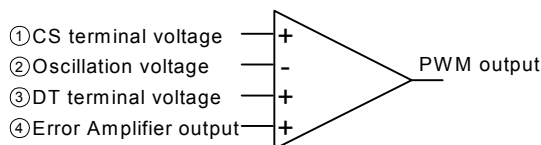
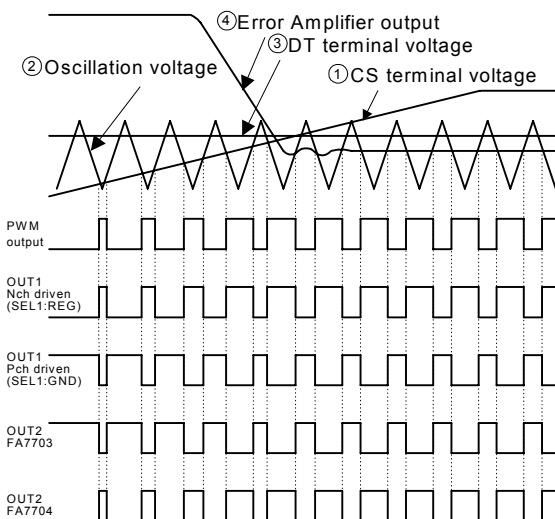
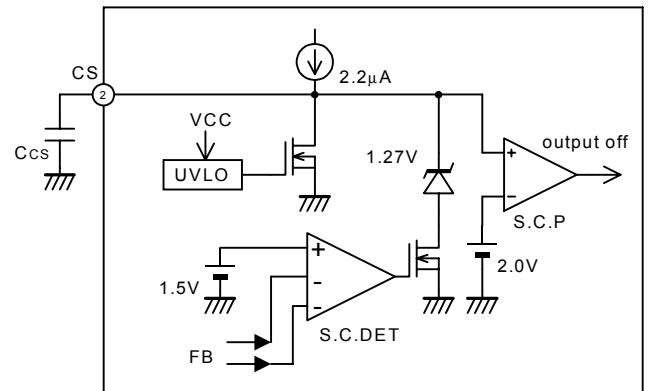

Fig.4
Fig.5
Fig.6
**(4) PWM comparator**
PWM comparator of FA7703/04 has 4 input terminals. (Fig. 4) The oscillator output ② is compared with the CS terminal voltage ①, the DT terminal voltage ③, and the Error Amplifier output ④. Among those 3 inputs of ①, ③, and ④, the one with the lowest voltage is chosen and given priority. While the value of the chosen voltage is lower than the value of the waveform of oscillator output, PWM comparator output is set to LOW. Similarly, while the value of the chosen voltage is higher than the waveform of oscillator output, PWM comparator output is set to HIGH. (Fig. 5)
When FA7703/04 are turning ON, the soft start function starts according to the CS terminal voltage ①, then the output pulses begin to widen gradually. The maximum pulse width is adjusted by changing the DT terminal voltage. In steady operation, the pulse width is determined with the condition of the Error Amplifier output ④, and then the output voltage of DC-DC converter is stabilized. The operation flow chart of PWM comparator and OUT terminal is shown in Fig. 5. The output polarity of OUT1 terminal changes according to the condition of SEL1 terminal. The polarity of OUT 2 terminal is different between FA7703 and FA7704; accordingly, select the type for your desired circuit design.
As described in Fig. 6, a capacitor Ccs is connected to CS terminal. When the power supply of FA7703/04 starts and the undervoltage lockout protection circuit (UVLO) is cancelled, the capacitor Ccs is charged by the internal current source (2.2μA. typ.), and the voltage of CS terminal rises gradually. Since the voltage of CS terminal is connected to PWM comparator, the output pulses begin to widen gradually, and then the soft start function starts as a result. (Fig. 5)